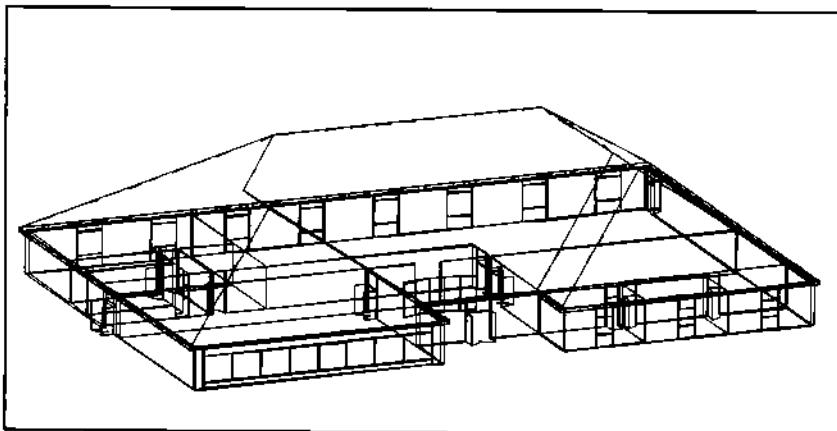

Figure 13.
4. The 3D roof is shown in plan view (Figure 10) and isometric view in Figure 13.